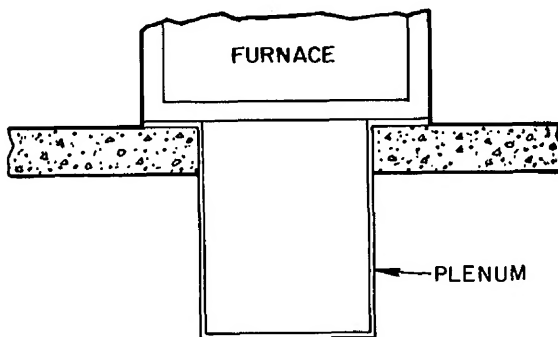

Fig. 5 — Furnace on a Concrete Slab
3. Place plenum and furnace as shown in Fig. 5